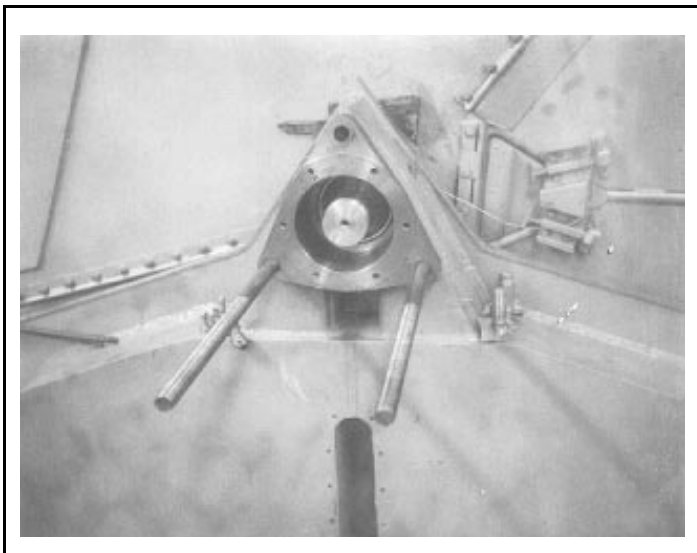

FIGURE 3 (MSSM0303AE)
1. Remove the three bearing housing cap bolts and the grease lines from the bearing housing front plate. Install guide rods in two of the bolt holes, as shown in FIGURE 3.